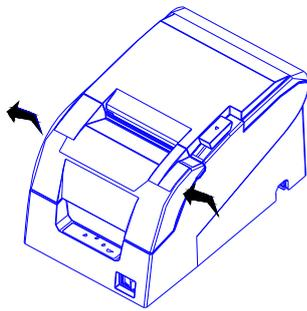

Fig 1
- (1) Shown as in figure 1, open front cover